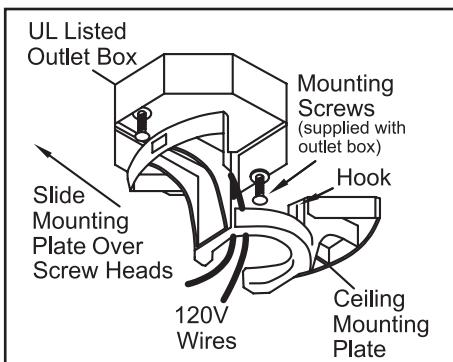

Figure 5
- Pass the 120-volt supply wires through the center hole in the ceiling mounting plate as shown in Figure 5.
- Install the ceiling mounting plate on the outlet box, by sliding the mounting plate over the two screws provided with the outlet box (Figure 5). When using close-to-ceiling mounting, it is important that the mounting plate be level. If necessary, use leveling washers (not included) between the mounting plate and the outlet box. Note that the flat side of the mounting plate is toward the outlet box (Figure 5).